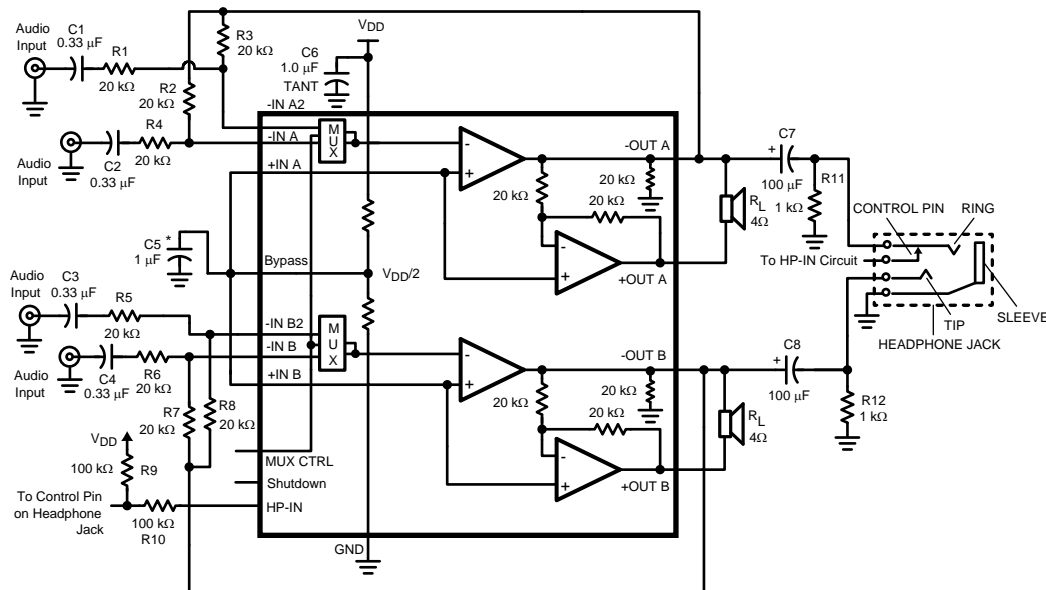

Figure 3. Typical Audio Amplifier Application Circuit
Table 2. External Components Description (see Figure 3)
- (1) Absolute Maximum Ratings indicate limits beyond which damage to the device may occur. Operating Ratings indicate conditions for which the device is functional, but do not guarantee specific performance limits. Electrical Characteristics state DC and AC electrical specifications under particular test conditions which guarantee specific performance limits. This assumes that the device operates within the Operating Ratings. Specifications are not guaranteed for parameters where no limit is given. The typical value however, is a good indication of device performance.
- (2) All voltages are measured with respect to the ground (GND) pins, unless otherwise specified.
- (3) All measurements taken from Applications Diagram (Figure 3).
- (4) Typical values are specified at $25^\circ C$ and represent the parametric norm.
- (5) Datasheet min/max specification limits are guaranteed by design, test, or statistical analysis.
- (6) The quiescent power supply current depends on the offset voltage when a practical load is connected to the amplifier.
- (4) Typicals are specified at $25^\circ C$ and represent the parametric norm.
- (6) Output power is measured at the device terminals.
- (7) When driving 3Ω or 4Ω loads and operating on a 5V supply, the LM4883SQ must be mounted to a circuit board that has a minimum of $2.5in^2$ of exposed, uninterrupted copper area connected to the SQ package's exposed DAP.